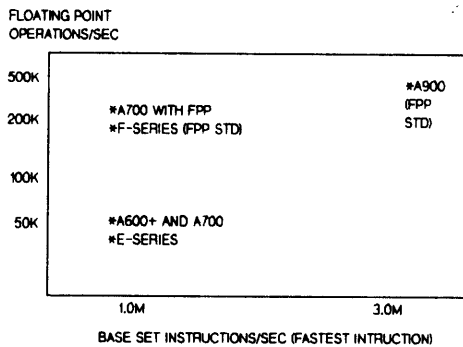

Figure 1-3. Relative Performance of HP 1000 Processors
**Fast Processing of Data.** HP 1000 Systems offer a choice of processing power levels, with base instruction rates to 3 MIPS (fastest instruction) and floating point processing speeds up to 500,000 FLOPs (Figure 1-3). This shortens the time required to process input data, get results, and process the next instruction.